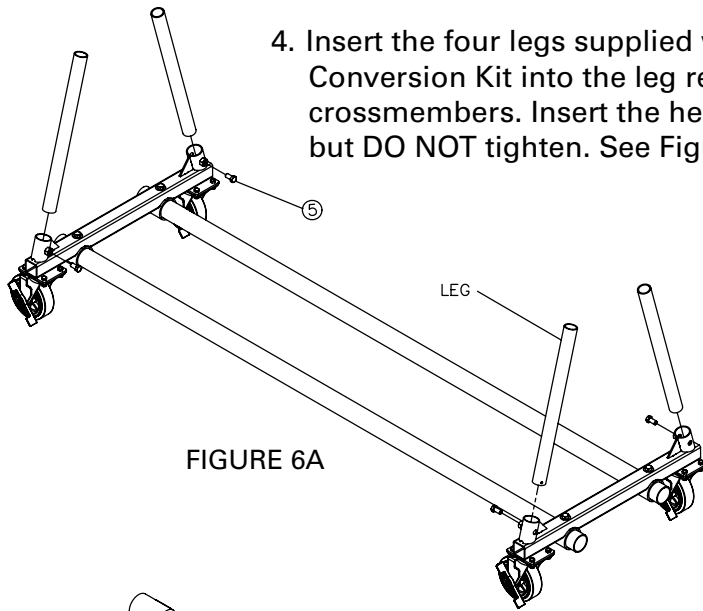

FIGURE 6A
4. Insert the four legs supplied with the Mobile Conversion Kit into the leg receiver tubes on the crossmembers. Insert the hex head cap screws (#5) but **DO NOT** tighten. See Figure 6A.